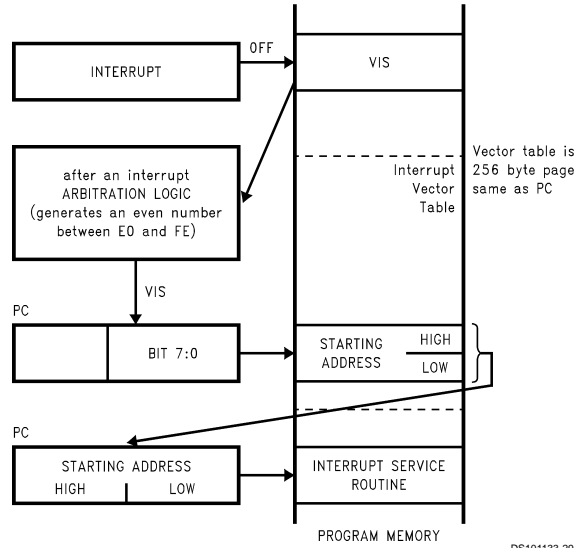
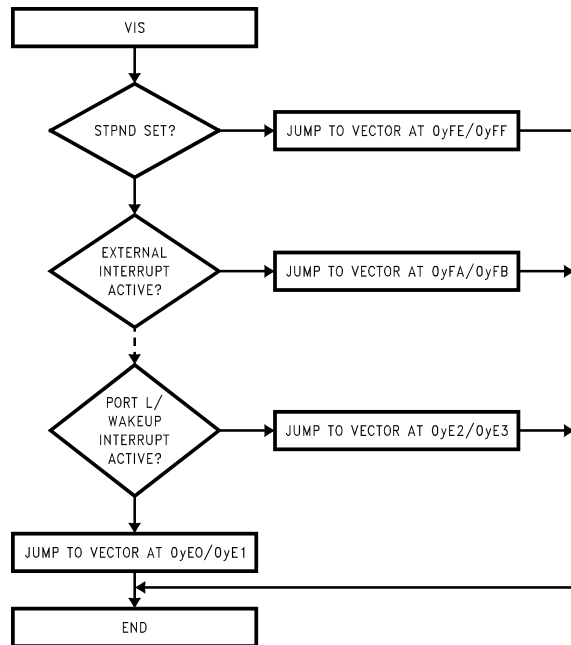

FIGURE 14. VIS Operation
FIGURE 15. VIS Flowchart
*Figure 14* illustrates the different steps performed by the VIS instruction. *Figure 15* shows a flowchart for the VIS instruction.